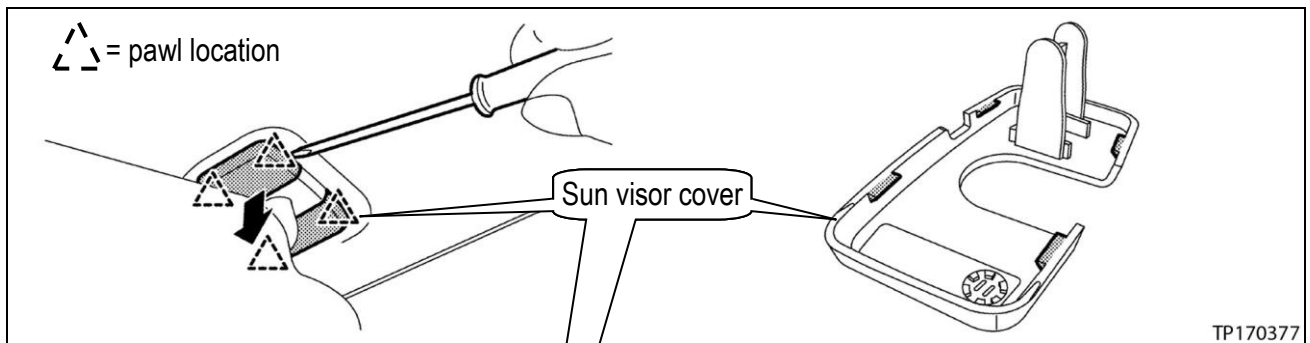

Figure 15
- a. Using a suitable tool, unfasten, and then remove the sun visor cover (see Figure 15).